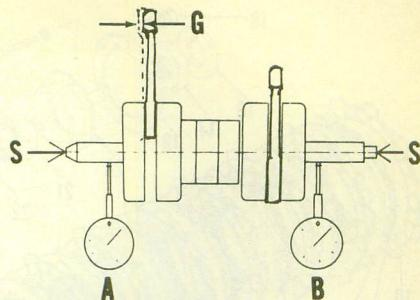
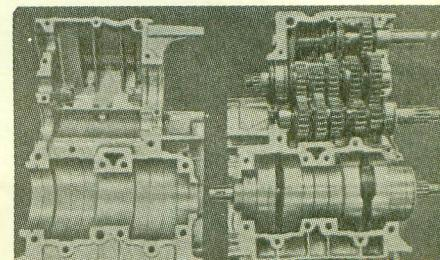

Fig. Y8-15—Refer to text for checking crankshaft for correct assembly or wear.
Fig. Y8-21—Gears and shafts should stay in place in the top half of crankcase when the lower half is lifted off.
**CONNECTING RODS AND CRANKSHAFT.** The crankcase halves must be separated to remove the crankshaft. Refer to Fig. Y8-21. Connecting rods, crankpins rod bearings and the center main bearings and seal are removed by pressing the crankshaft apart. The crankshaft should be disassembled **ONLY** if required tools are available to correctly check and align the reassembled crankshaft. If side shake (G—Fig. Y8-15) at piston pin end of connecting rod exceeds 2MM (0.08 in.), the connecting rod, crankpin and lower bearing should be renewed. Shake (G) should be 0.8-1.0MM (0.032-0.039 in.). Side clearance of connecting rod between the crankshaft counter weights can be measured with a feeler gage. Side clearance should be 0.1-0.3MM (0.0039-0.012 in.). With crankshaft supported between lathe centers (S—Fig. Y8-15), maximum eccentricity
The gears and shafts should remain in place in the top half as shown in Fig. Y8-21.